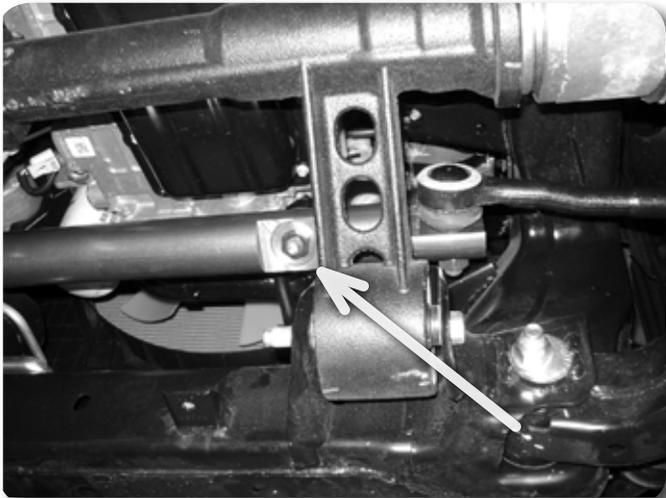

Figure 9
14. Install the centerlink to the idler arm and pitman arm with the factory nuts **Figure 9**. Tighten to factory specifications.